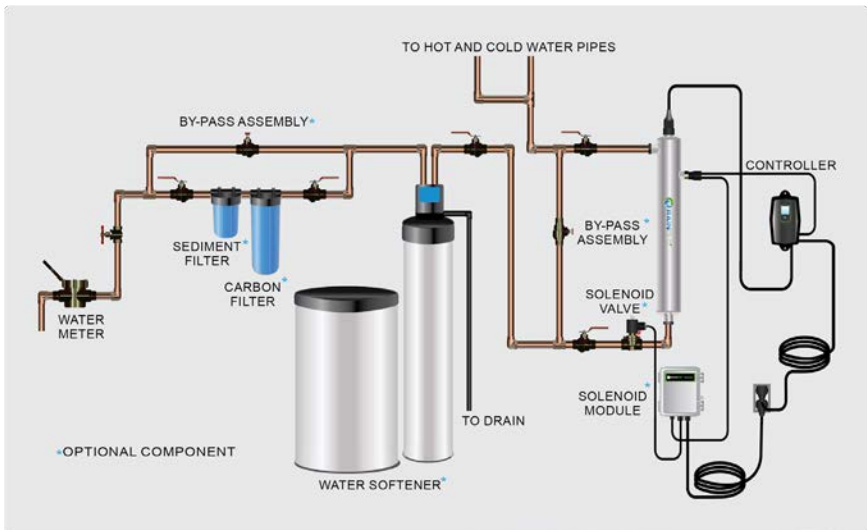

Figure 1. Recommended POE Installation Location
For Point of Entry (POE) systems, choose a location where the main cold water line is accessible. The system must be installed after other water treatment equipment (softener or filters), but before any branches (See Figure 1). For Point of Use (POU) systems, install the unit just before the faucet. RainHarvest Systems recommends that a 5 micron filter be installed **before** the UV system for a final polishing step before the water is disinfected.
Step 10: Mount the controller to the wall so it is above or beside the reactor to ensure that no moisture can deposit on any of the connections (See Figure 1). Always mount the controller vertically. For monitored systems, insert the sensor connector into the IEP port located on the right side of the controller (Figure 6). For the sensor to be recognized by the controller, the controller power must be plugged in last. **Do not plug the controller power cord in before the last step.**